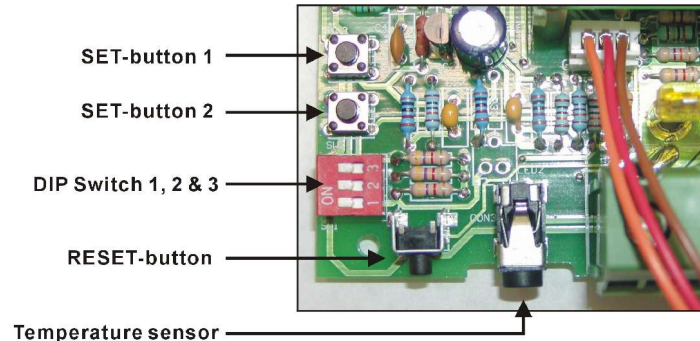

Figure 4
5. Each subsequent press of the Reset button will move on to the next setting in the cycle as shown in Fig. 4: